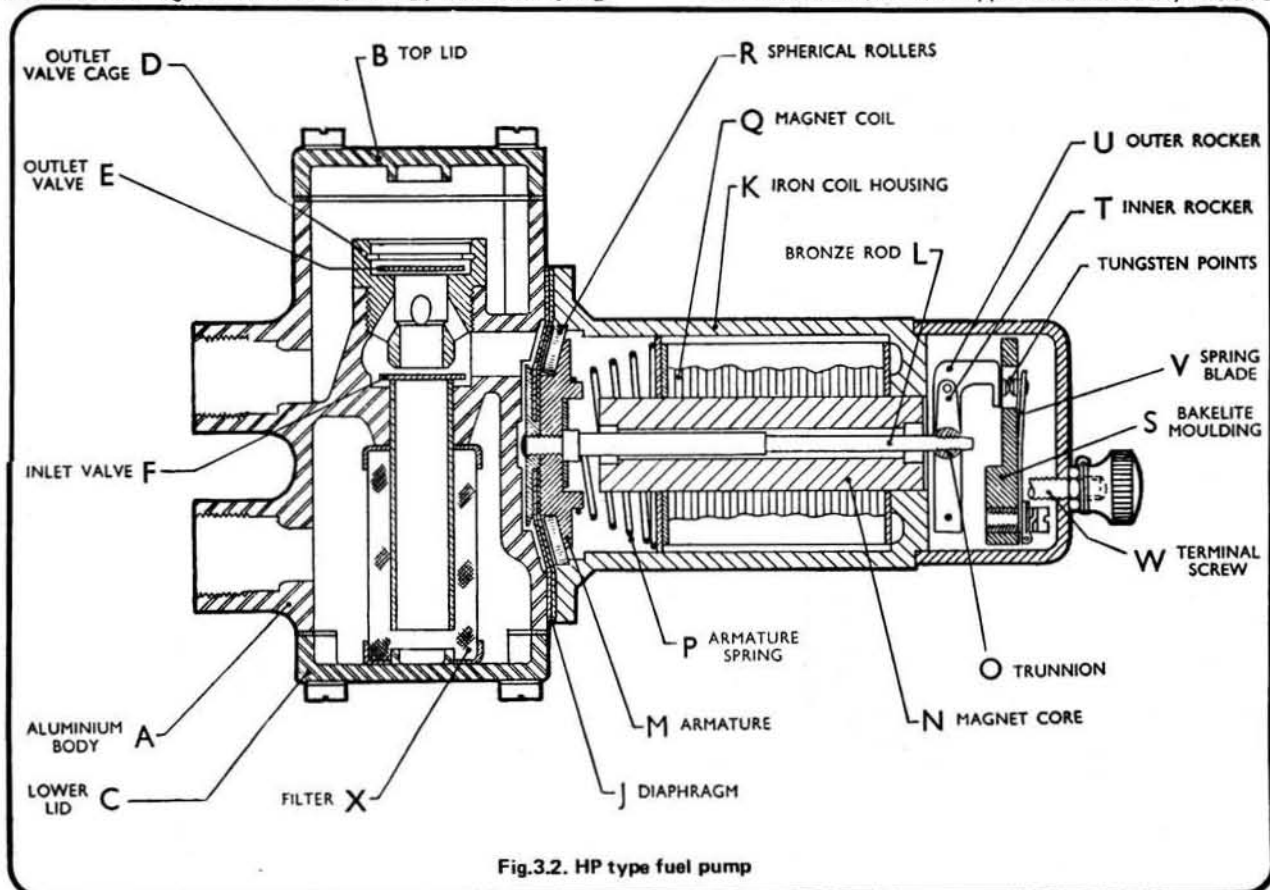
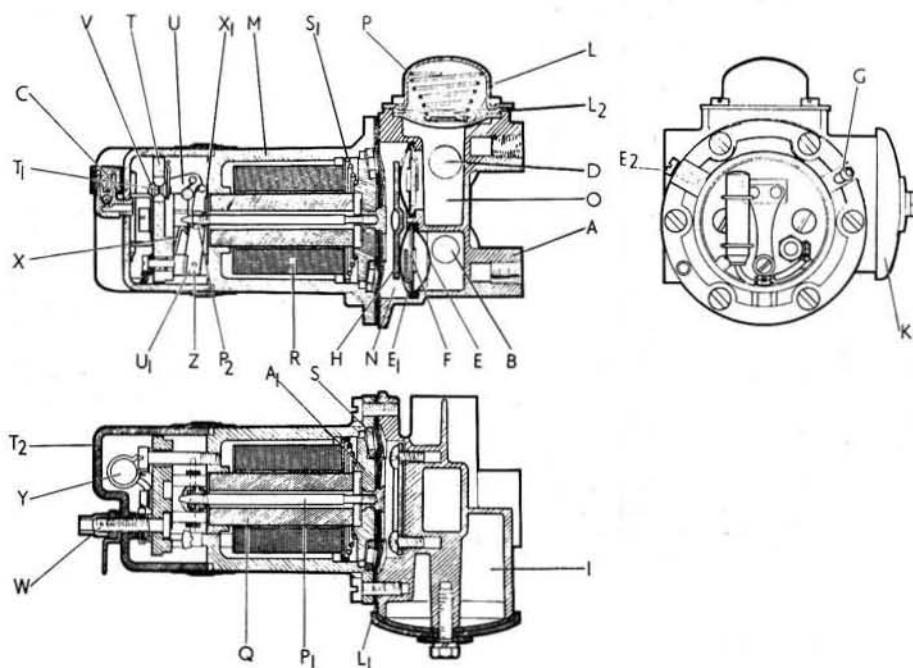

Fig.3.2. HP type fuel pump
Fig.3.3. The AUF fuel pump (AUF 301 illustrated)
A sectioned view of the type of fuel pump fitted to early model cars is given in Fig.3.2. The pump consists of three main assemblies - the body, the magnet assembly (sometimes referred to as the coil housing assembly) and the contact breaker.
pump which was introduced for later Mk 2 models. The coil housing of this pump is approximately $2\frac{1}{4}$ " in length compared to $2\frac{3}{4}$ " of the earlier type. However, the above pumps were superseded by the AUF. 301 (late model Mk 2 and 3.8 litre cars) and by the AUF .303 as fitted to 240 and 340 models but which may also be found on the other range of cars. These pumps differ considerably from the pump described above as will be seen from the sectioned drawing (of the AUF.301) which is shown at Fig.3.3. This pump also comprises three main assemblies: the main body casting "A", the diaphragm armature and magnet assembly "M" contained within the housing, and the contact breaker assembly housed within the end cap "T2". A non-return valve assembly "C" is fixed to the end cover moulding to aid the circulation of air through the contact breaker chamber. The main fuel inlet "B" is maintained in communication with an inlet air bottle "I".
Communication with the main pumping chamber "N" is provided by an inlet valve assembly, this assembly comprises a Melinex valve disc "F" permanently assembled within a pressed steel cage, which, in turn is held in place by a valve cover "E1", while the outlet from the pumping chamber is provided with an identical valve assembly reversed in direction. Inlet and outlet valve assemblies and filters are held in position by a clamp plate "H", both valve assemblies may be removed by detachment of the clamp plate after removing the self tapping screws shown on the lower diagram in Fig.3.3. A filter "E" is provided upstream of the inlet valve assembly. The delivery chamber "O" is bounded by a flexible plastic spring loaded diaphragm "L" contained by the vented cover "P". The rubber sealing ring "L2" seals the diaphragm "L".
- 2 Refer to Figs. 3.2 and 3.3.
- 5 Mark the relative position of the coil housing and the body. Remove the six set screws which secure the coil housing and body and separate them. The edges of the diaphragm are now free and the spherical rollers, "R" in Fig.3.2 and "S" in Fig.3.3 should be removed.
- 9 Push out the rocker spindle pin ("Z" in Fig.3.3) to release the rocker assembly which cannot be dismantled any further. DO NOT remove the toggle springs.
4 Fit the impact washer over the diaphragm rod to enter the recess in the armature, "M" in Fig.3.2 and "AI" in Fig.3.3. Fit the large diameter of the armature spring into the coil housing. Enter the thread of the diaphragm rod into the trunnion, "O" in Fig.3.2 and "P2" in Fig.3.3. Turn the diaphragm clockwise until the rocker will just not throw over.